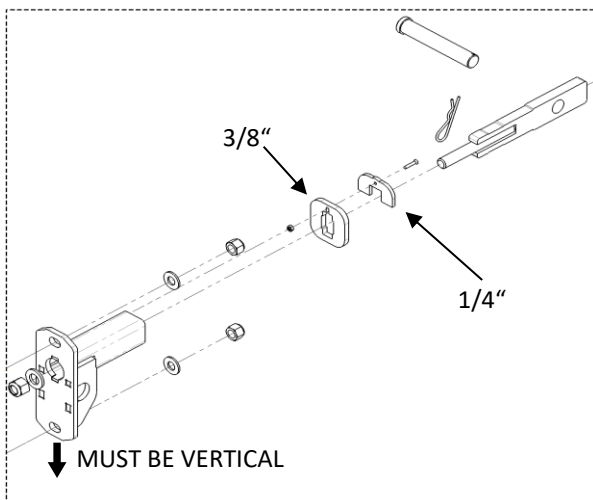
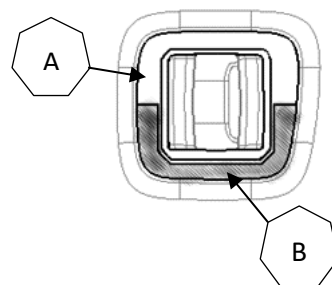

Figure A1: Components to be assembled
Figure A2: Two-piece Cross Member
- i. If OEM truck frame is equipped with a *Two-piece Cross Member (Cross Member 'A' with an overlapped bottom flange 'B' as shown in Figure A2)*, assemble as shown in Figure A1